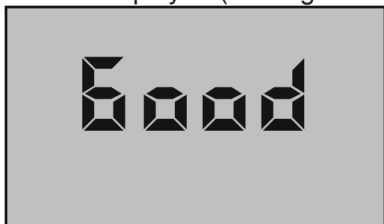
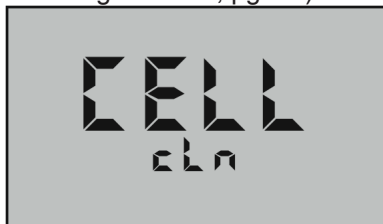

Figure 19
Figure 20
4. Press  to test. If cell is clean, “**Good**” will momentarily be displayed (see Figure 19). If cell is dirty, “**CELL cLn**” will be displayed (see Figure 20) (ref. Cleaning Sensors, pg. 48).